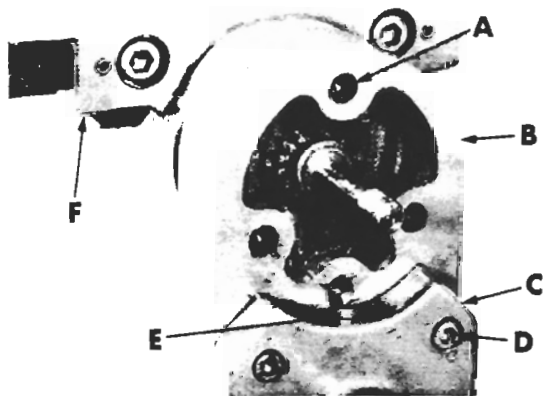

Figure 44
2. Remove three screws (A, fig. 44) and pull assembly (B) from dial housing (F).
2. Remove three screws (D, fig. 44).
3. Remove set screw (E).
4. Pull cover assembly (C) off shaft, remove spring and ball.